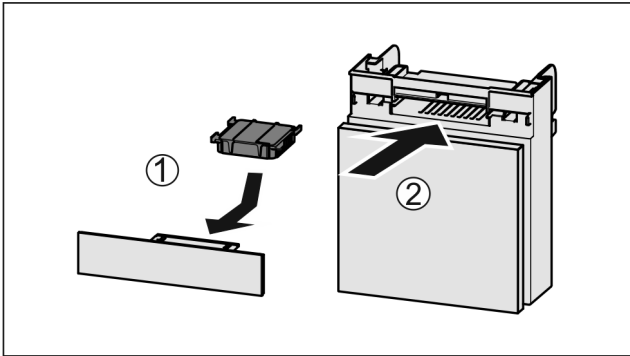

Fig. 86
- ▶ Insert the carbon filter as shown in the diagram Fig. 86 (1).
- ▶ Push the compartment in Fig. 86 (2).